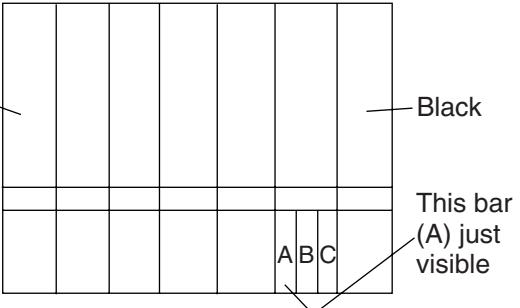

Fig. 7
Note: Bar (A) in Fig. 7 --- 0 IRE
2. Press MENU button. (Each time MENU button is pressed, display will change BRT, CNT, COL, TNT, and SHP in that order.) Select BRT and press [P+/P-] buttons so that the bar (A) in Fig. 7 is just visible.